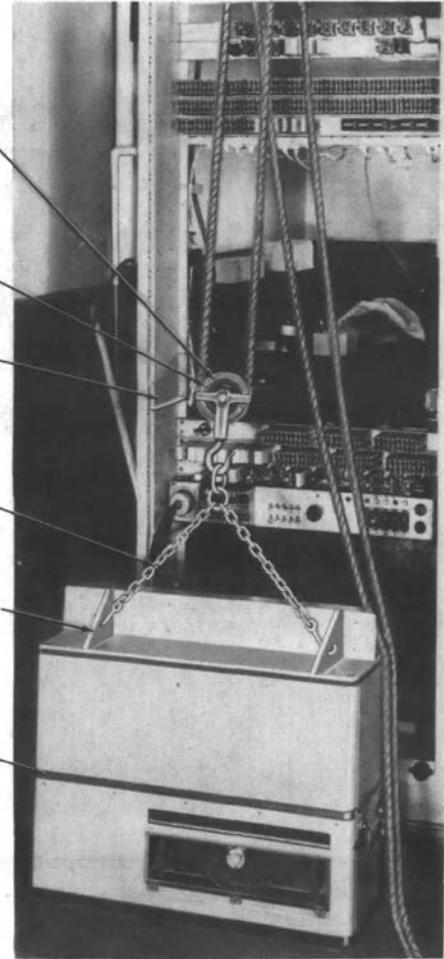

Fig. 62—Perforator in Position for Hoisting from Dolly Truck
- (2) Move the dolly truck into position under the hoist and in front of the frame with the rear of the perforator facing the frame.
- (3) Attach the R-81438 hoisting chain to the perforator, as shown in Fig. 62.
- (4) Raise the perforator off the dolly truck using the hoist and move the dolly trunk away from the front of the frame.
- (5) Continue raising the perforator until the bottom of the unit is slightly above the level of the mounting brackets on the frame uprights.